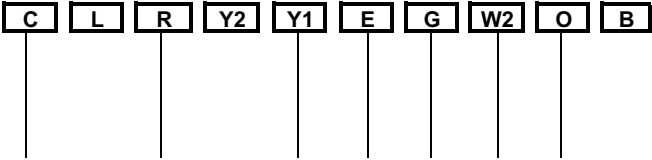

**Figure 5**
- Terminal screws are already loose and ready for wire insertion. Insert wires into terminal strip (Figure 5) matching the label to the corresponding terminal (see **Wiring Diagrams**). Tighten screws.